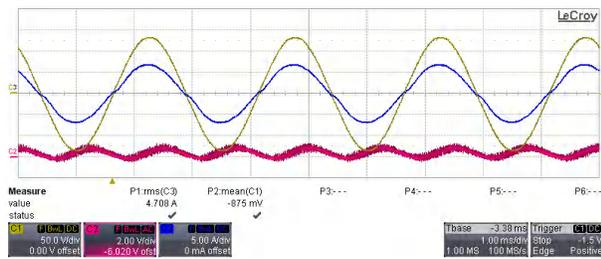
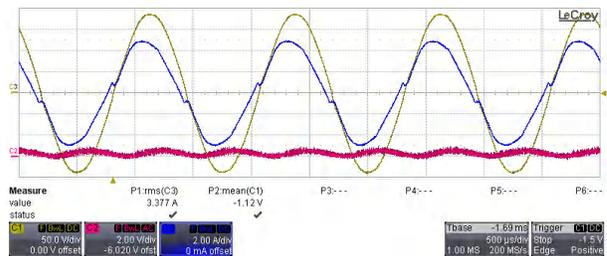

Figure 3-6. $V_{IN} = 96$ VAC, $F = 400$ Hz
Figure 3-11. $V_{IN} = 134$ VAC, $F = 800$ Hz
All screenshots in Figure 3-6 through Figure 3-11 show the input voltage V_{IN} (AC) and current I_{IN} (AC) of the PFC stage, as well as the PFC voltage at 96 VAC, 115 VAC, and 134 VAC, with mains frequency = 400 Hz and 800 Hz in full load condition (C2: V_{PFC} , C1: V_{IN} , C3: I_{IN}).